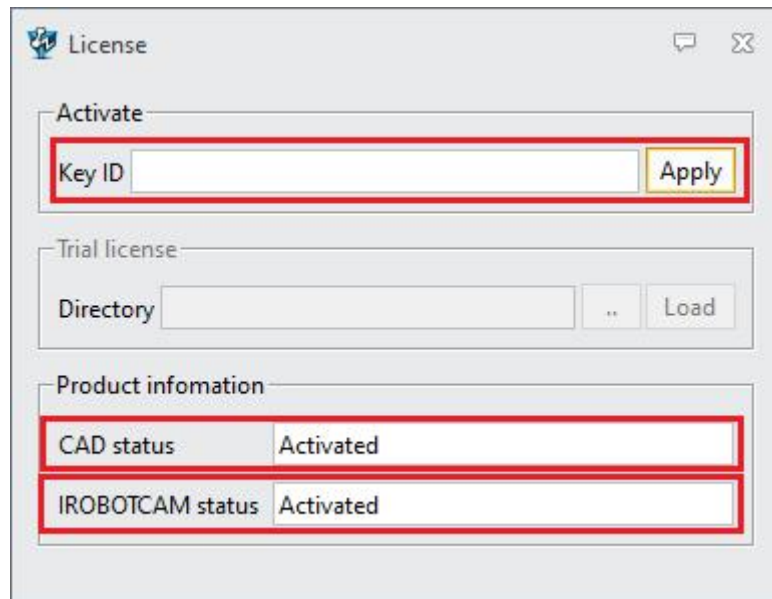

Figure 4-10: License
- **iRobotCAM status:** It also includes three states: inactive, trial, and activated. When inactive is showing, it indicates that the software trial period of 30 days has ended. The output box has relevant prompts.(Figure 4-10)